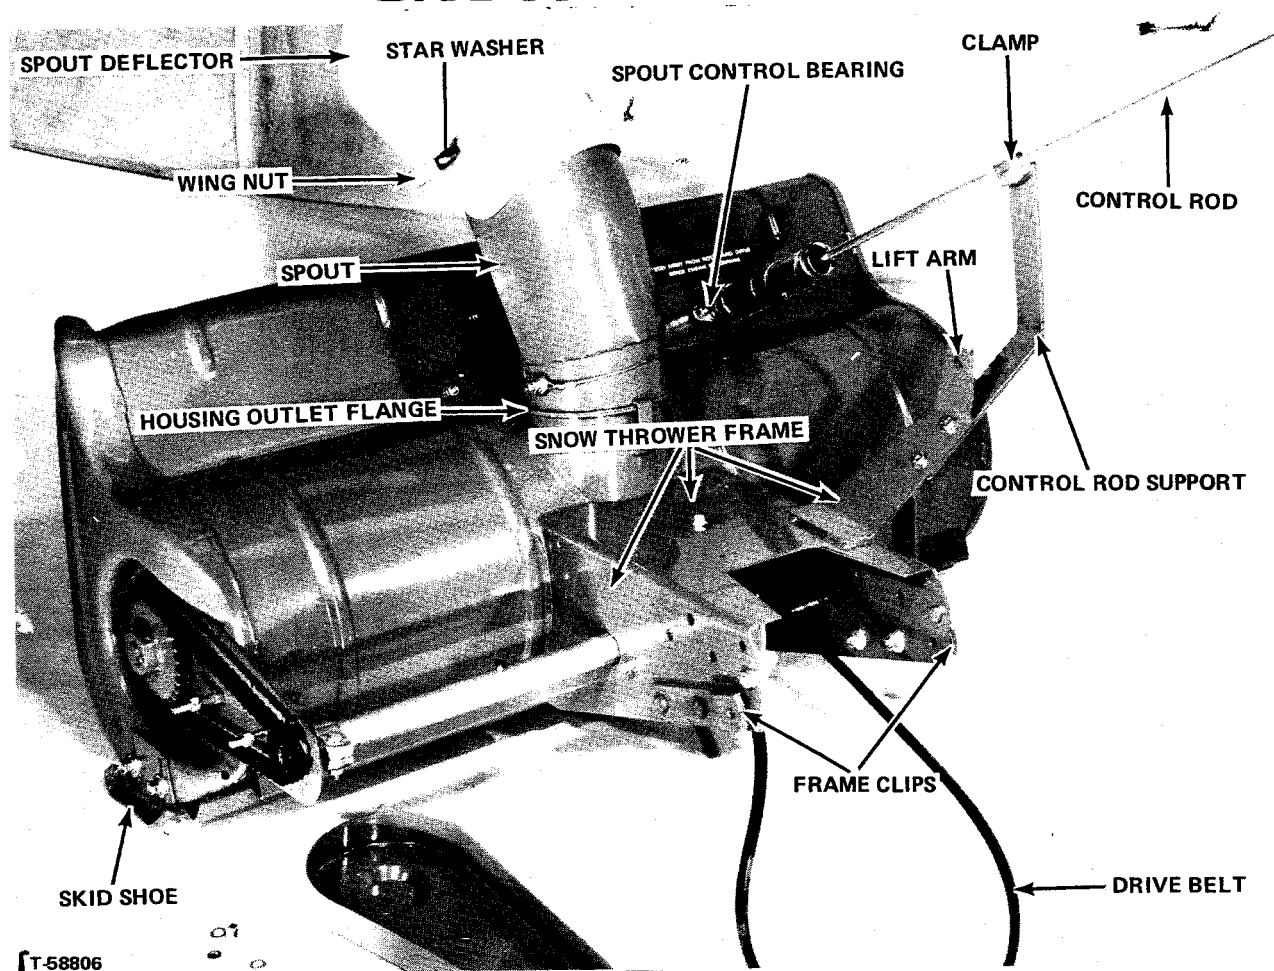

FIGURE 18
1. Bolt the frame clips and the control rod support to the snow thrower frame, and bolt the skid shoes to the end of the housing using flat washers between the slotted holes and the lockwashers as shown in Figure 18.
2. Install the spout control rod into the bearing located on the right hand front of snow thrower housing. Install one cotter pin in control rod on each side of bearing (Figure 18). Place clamp on spout control rod and bolt it to control rod support (Figure 18). Use locknut on bolt and tighten it just enough to create a slight drag on spout control rod when rotated. This is to prevent undesirable - rotation of the spout while operating snow thrower.
3. Place a thin coating of light grease on the snow thrower housing outlet flange where spout contacts housing when in working position. Rotate spout back until notch lines up with holder on snow thrower housing. Slip spout down over end of housing discharge until it rests on outlet flange. Rotate the notch away from holder (Figures 18 and 19).
4. Place deflector over spout, install two carriage bolts through holes in spout and deflector. Place large star washer between the deflector and the spout with the cupped side of washer toward spout. Place the flat washers and wing nuts on the outside of the deflector. Tighten wing nuts. (Figures 18 and 19)
5. Attach cable clamp containing spout control cable onto control rod spool with bolt. Wrap cable with eyelet on end around front portion of control rod spool about 2 turns. Pass cable around front of spout and hook eyelet over stud and place flat washer over eyelet. While holding back on the left side of deflector lightly, turn spout control rod clockwise (while facing forward) to tighten front part of cable. Continue to turn spout control rod until spout is turned to point exactly straight forward (Figures 18 and 19).